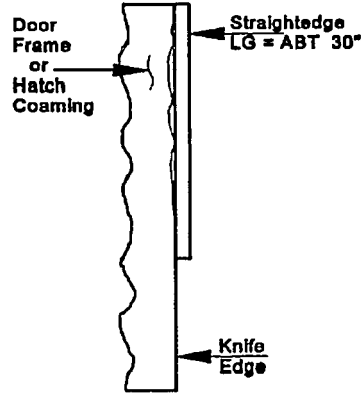
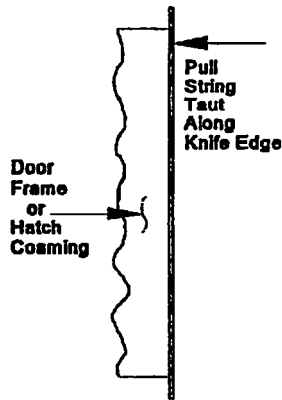
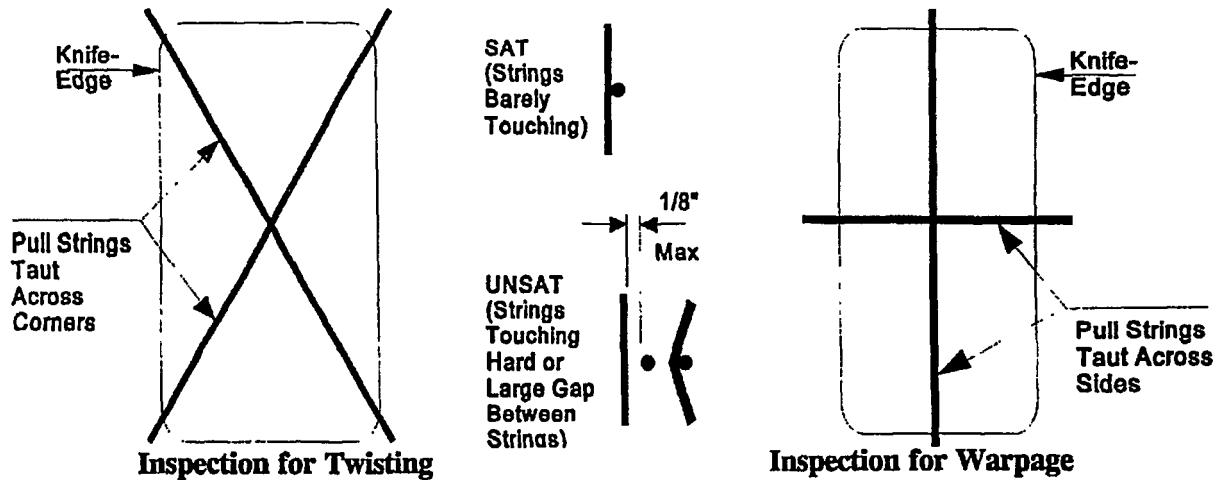

Figure 600-2.38. Knife-Edge Inspection Using Straightedge Method
Figure 600-2.39. Knife-Edge Inspection Using String Method
Figure 600-2.40. Knife-Edge Inspection for Warpage
- a. Open the fitting. Inspect the knife-edge for straightness and/or warpage using a straightedge and two lengths of string. See figure 600-2.38, figure 600-2.39, and figure 600-2.40. The maximum acceptable variation for